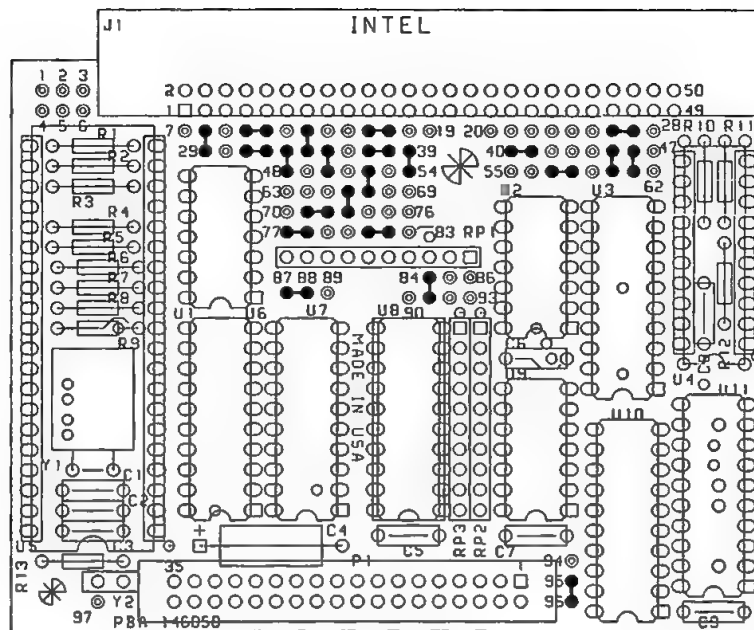
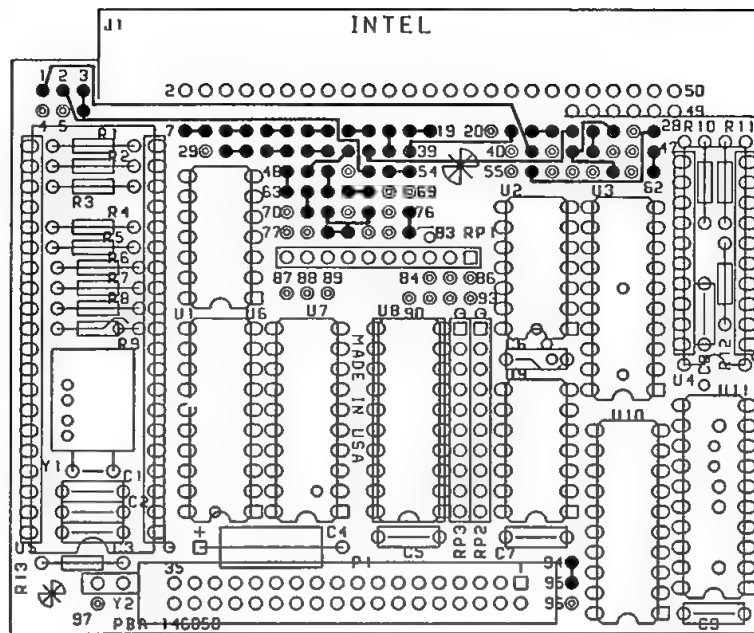

Figure 2-3. QIC-Ø2 Jumper Configuration
Figure 2-4. 3M Jumper Configuration
Jumpers are used to define the type of tape drive in use. Table 2-1 and Figure 2-3 summarize the jumper configuration for the QIC-02 interface drive (factory default configuration). Table 2-2 and Figure 2-4 give the jumper configuration for the 3M drive interface.
2. Install the wire-wrap jumpers as shown in Table 2-2 and Figure 2-4.
3. Insert the push-on jumpers as shown in Table 2-2 and Figure 2-4.
5. Remove the socketed device at location U4 (see Figure 2-4). Program a blank PAL16R6 device with the PALASM† source code contained in Appendix B. Install the PAL16R6 device in location U4. Ensure that pin 1 of the device is oriented with pin 1 of the socket. The PALASM assembler and blank PAL16R6 devices can be obtained from Monolithic Memories, Inc.